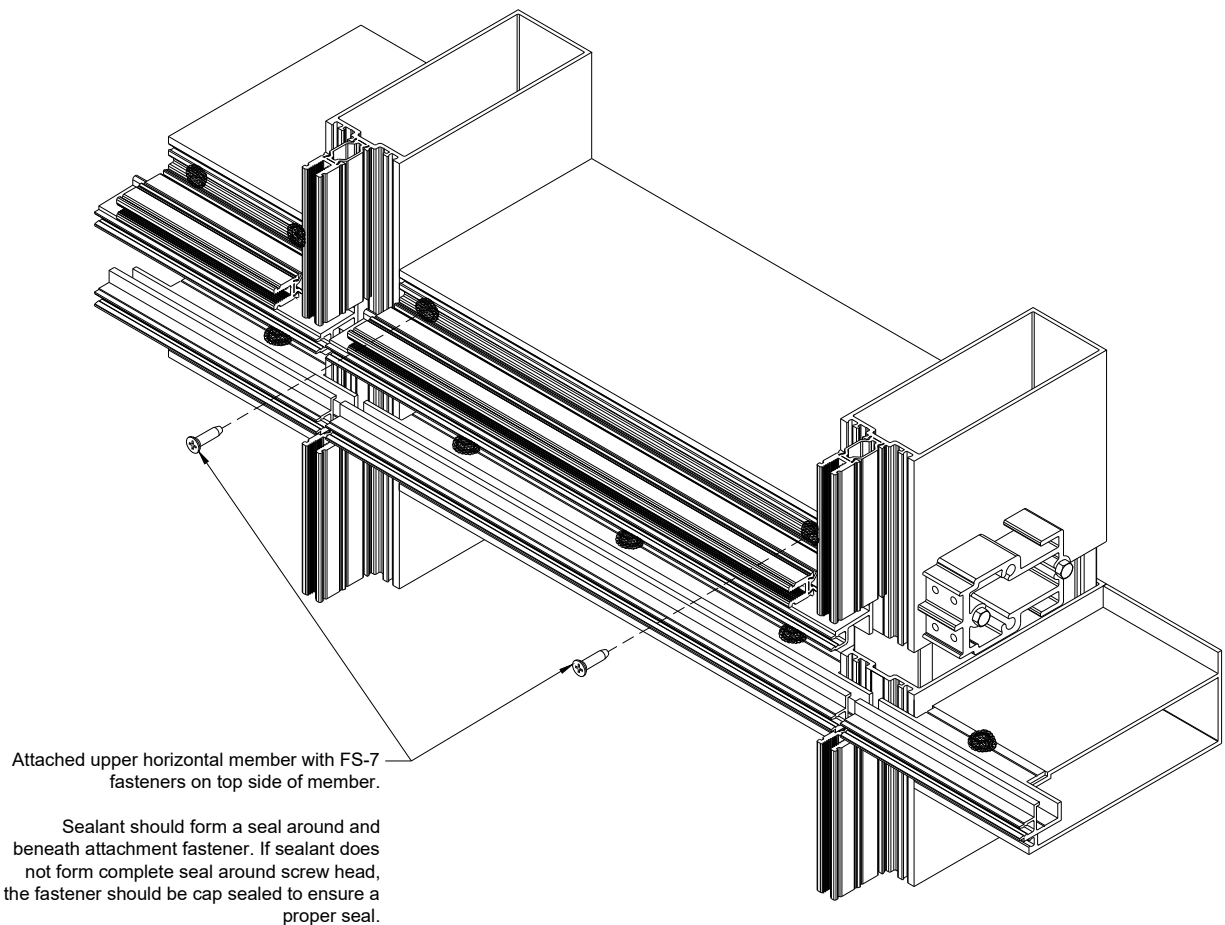

Figure 50: Upper Expansion Horizontal Assembly and Sealing
- 16.8 Install upper Horizontal at expansion Horizontal, per Section 15.0 (*Horizontal Installation and Sealing*), using **FS-7** Fasteners at top side of Shear Block on each side (The fastener location at the bottom side of Shear Block is behind the **RL-257**). See *Figure 50*.